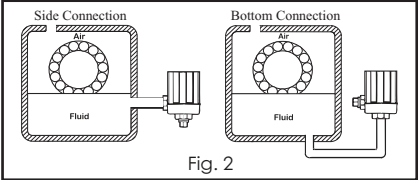

Fig. 2
- Connect lower casting to bearing chamber either through the side connection or the bottom connection (Fig. 2). Use thread compound on threaded areas, except for supplied plug.